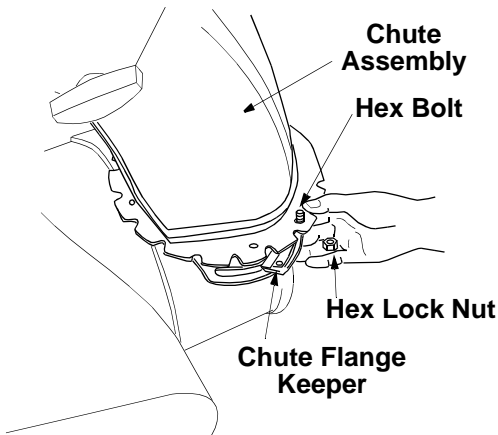

Figure 13
3. Insert hex bolt up through chute flange keeper and chute assembly as shown in Figure 13. Secure with hex lock nut.